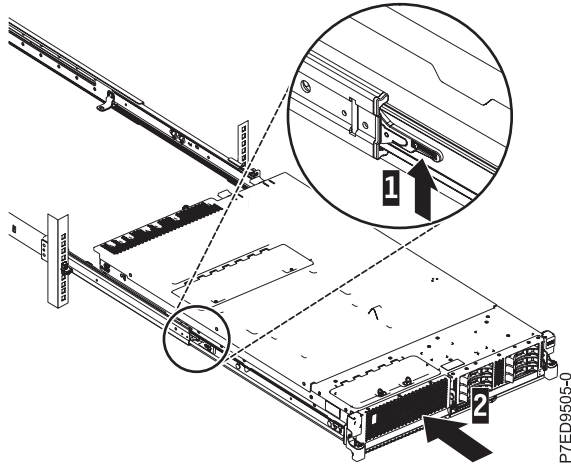

Figure 9. Release latches and server
3. Lift the blue release latches (1) on the slide rails and push the server (2) all the way into the rack until it clicks into place, as shown in Figure 9 on page 9.